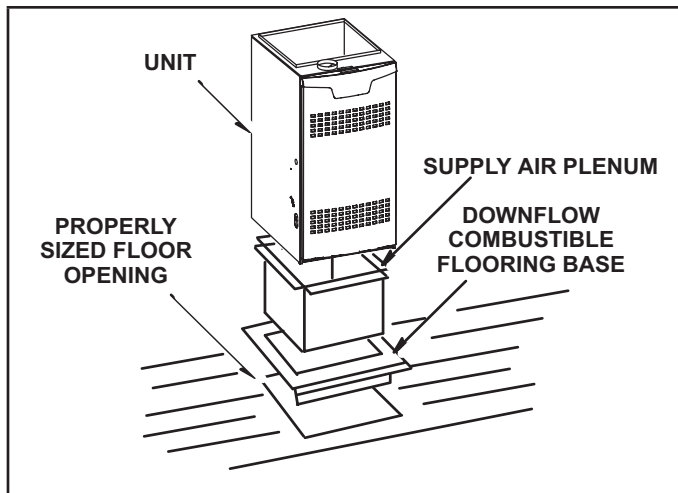

FIGURE 8
**Installation on Combustible Flooring (FIGURE 8)**